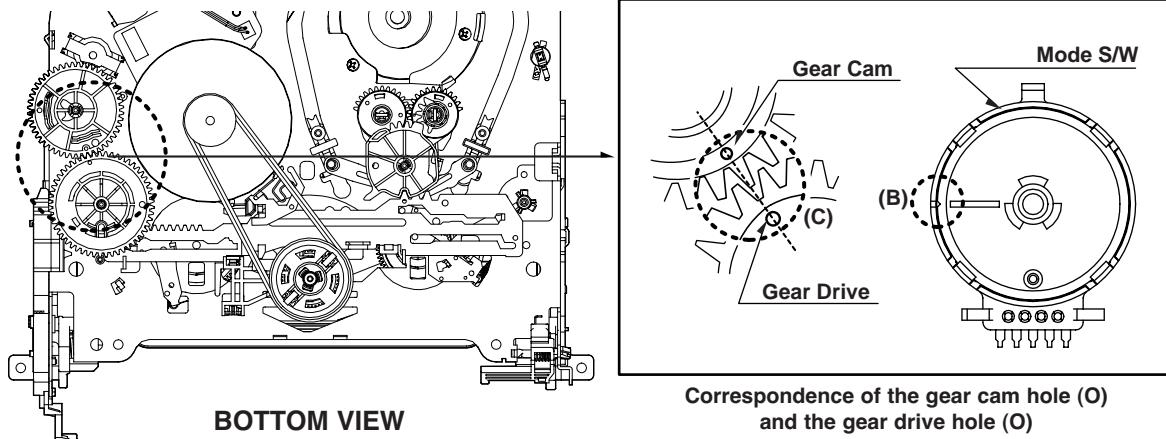
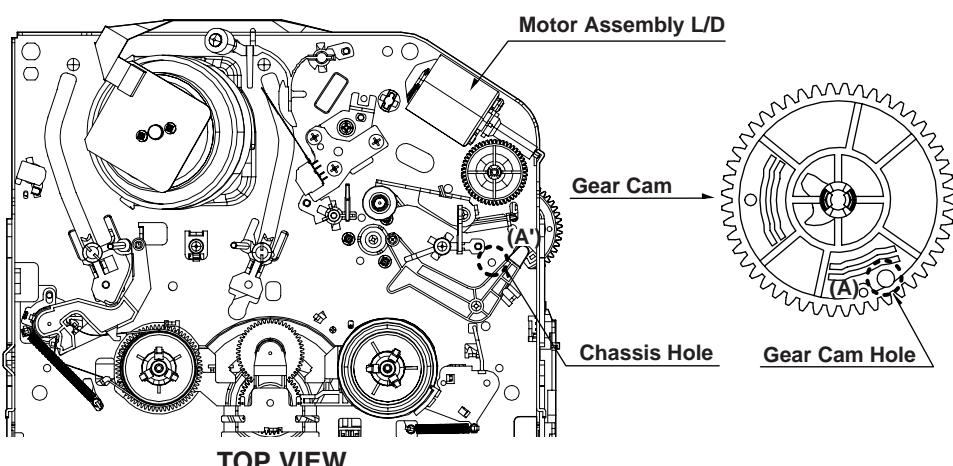

Fig. C-1
Fig. C-2
1) Turn the VCR on and take the tape out by pressing the eject button. 2) Separate both top cover and plate top, and check both the hole (A) of gear cam and the hole (A') of chassis correspond (Fig. C-2). 3) If it is done as in the paragraph 2): Turn the gear cam as in No.2) after mantling the motor assembly L/D.	4) Undo the screw fixing the deck and the main frame, and separate the deck assembly. Check both the hole (A) of gear cam and the hole (A') of chassis correspond (Fig. C-1). 5) Check the mode S/W on the main P.C. board locates at a proper position as in (B) of the Fig. (C-1). 6) Connect the deck to the main P.C. board and perform all types of test.